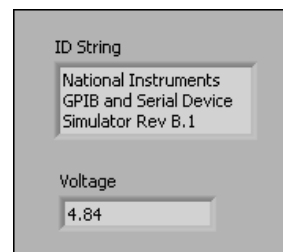

Figure 9-13. IIOAGPIB VI Front Panel
9. Display the front panel. The front panel should be similar to the front panel in Figure 9-13.